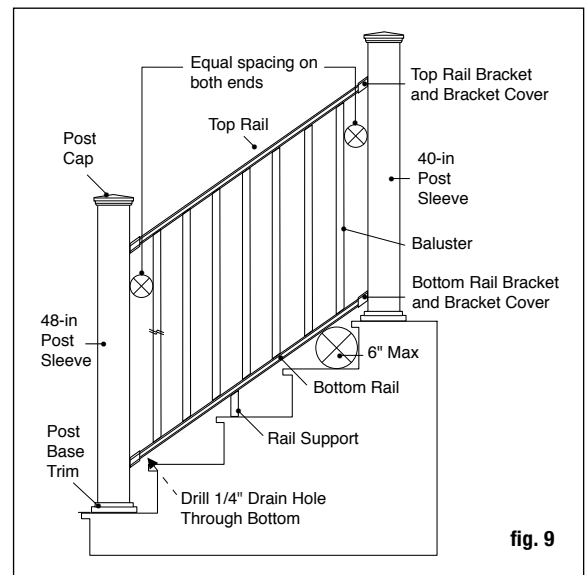
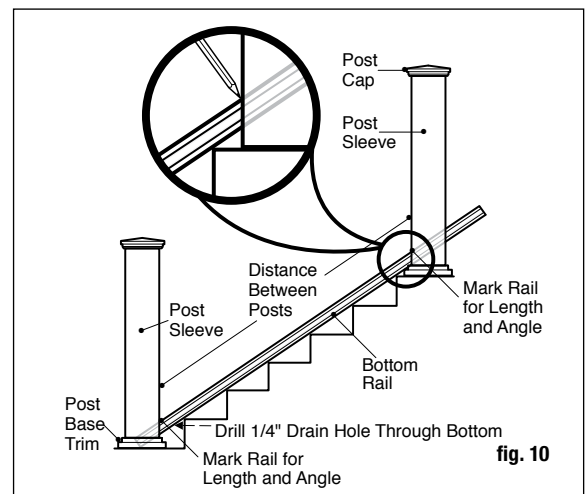

fig. 9
fig. 10
Step 6 Measure the distance between installed post sleeves to determine the length of the top and bottom rails. Place the bottom rail on the stair treads next to the posts and adjust so the distance between the first baluster hole and post is greater than 2-3/4" minimum and equal on both ends (fig. 9). Mark the rail to the proper length and angle. Cut the bottom rail. Cut the top rail to the same length and angle (fig. 10). **Drill one 1/4" drain hole through the bottom of the rail to prevent trapping water. Position the hole toward the lower end of the rail, roughly 2" from rail end to avoid the lower bracket.**
Step 7 Place the proper rail bracket covers and stair brackets on the ends of the bottom rail. Pay particular attention to the brackets being used as they differ based on top/bottom rail and up/down angle. Determine the position of the rail support and attach to the bottom rail. Prop the bottom rail between the posts on the stair treads (fig. 10). You may need to place equal shims between two stair tread noses to elevate the bottom rail. Check for requirements in your area. Typically, a 6" sphere may not be allowed to pass through the triangle formed by the bottom rail, tread and riser (fig. 9). Center the stair bracket on the post. Using the stair bracket as a guide, mark the screw positions on the post sleeve and rail on both ends. Pre-drill 1/8" pilot holes through the post sleeve and rail. Attach the stair bracket to the post sleeve using four #8-15 x 2" - #2 square drive flat head screws and then attach stair bracket to rail using two #8-16 x 3/4" - #1 square drive wafer head self-drilling screws.